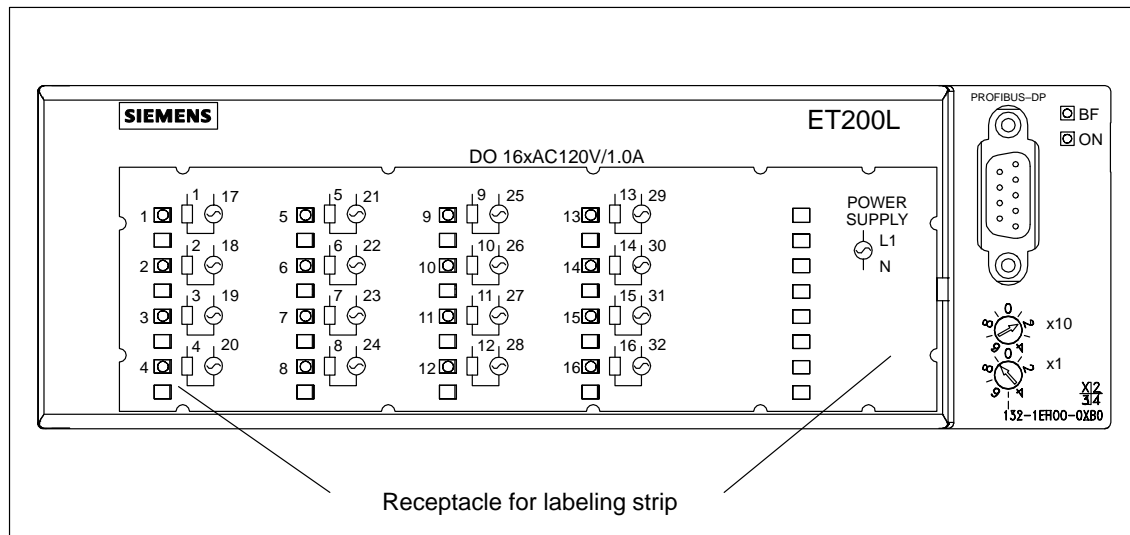

Figure 8-13 View of the L 16 DO AC 120 V/1.0 A Electronics Block
**View** Figure 8-13 shows a view of the L 16 DO AC 120 V/1.0 A electronics block.